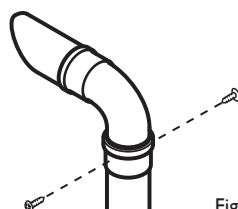

Fig. 21m
- Fit the 93° elbow/plume outlet and secure with the two remaining screws supplied. Ensure the plume outlet is at least 45° to the wall and that the 'peak' is uppermost (Fig. 21m).